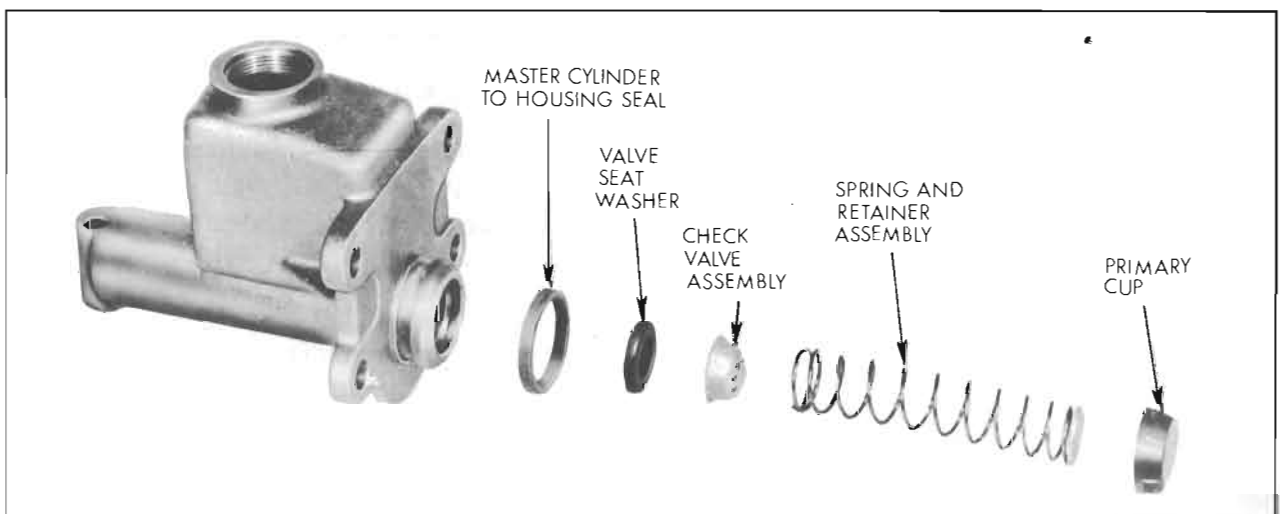

Figure 9-19—Internal Parts of Master Cylinder
3. Wipe master cylinder bore with a coat of clean brake fluid. Into bore, place valve seat washer. See Figure 9-19. Press check valve in open end of spring and retainer; place assembly in bore with check valve down. Dip primary cup in clean brake fluid and place in bore with lip down.